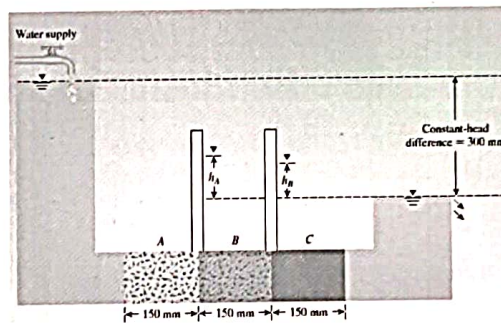

Fig. 5
- c. Fig. 5 shows three layers of soil in a tube that is 120 mm \times 120 mm in cross-section. Water is supplied to maintain a constant head difference of 300 mm across the sample. The hydraulic conductivities of the soils in the direction of flow through them are as follow: